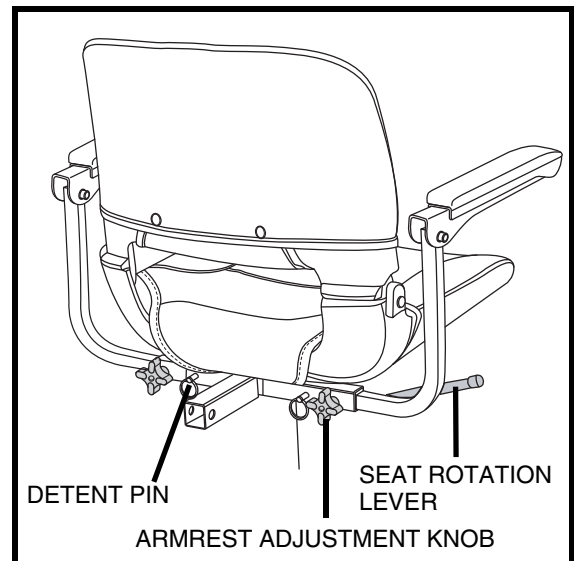

Figure 17. Seat Adjustments
1. Loosen the armrest adjustment knobs. See figure 17.